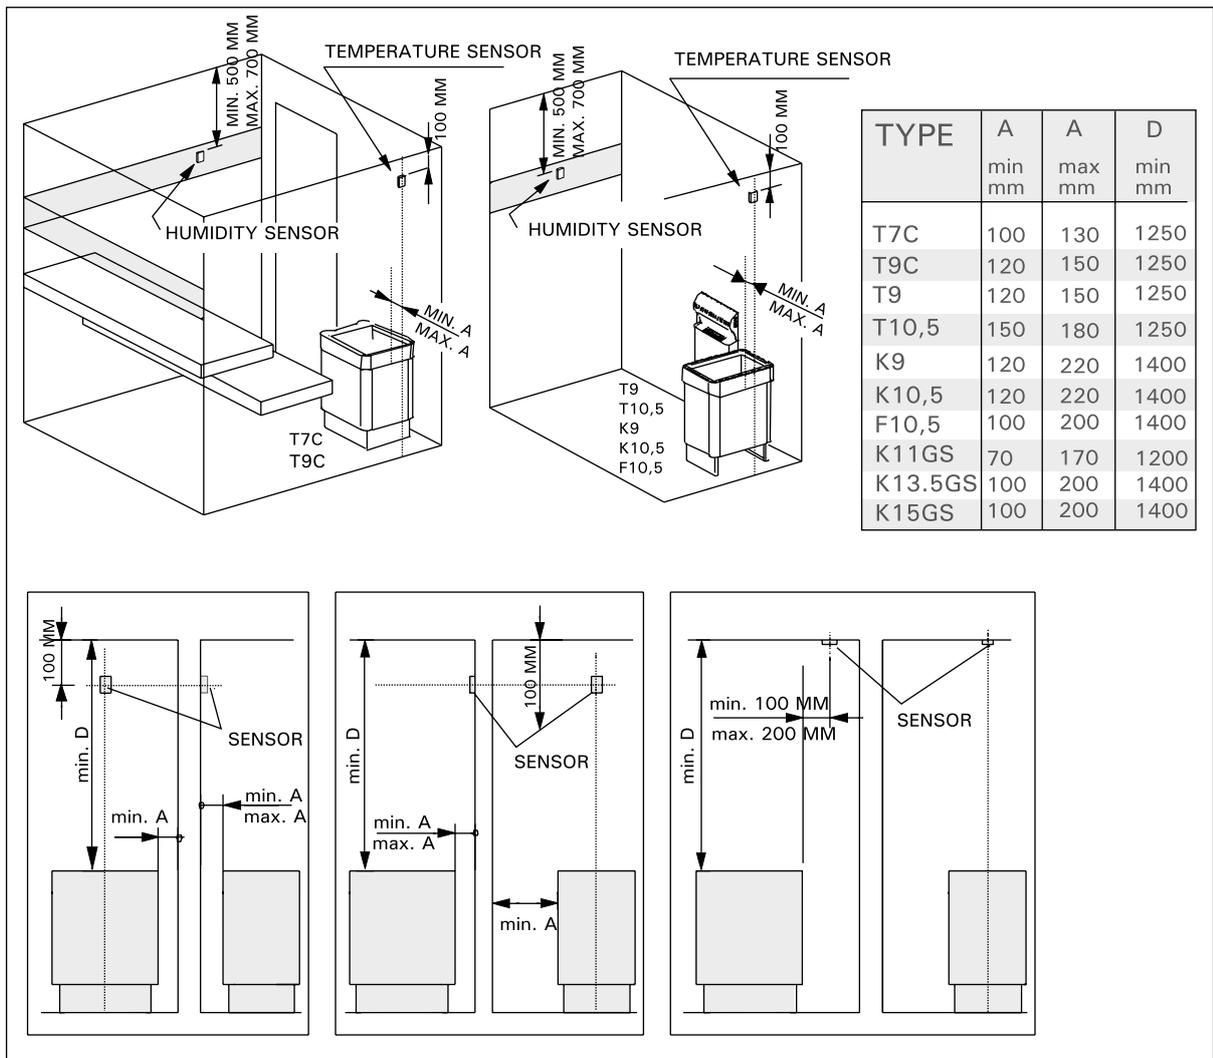

Figure 13. Installing the temperature and humidity sensors of the Fenix control unit, floor-mounted heaters
**Floor-mounted heaters and Combi heaters** (see Figure 13).
With a separate steamer (SS20/A), observe that the temperature sensor must not be installed in the area affected by steam (see Figure 13).